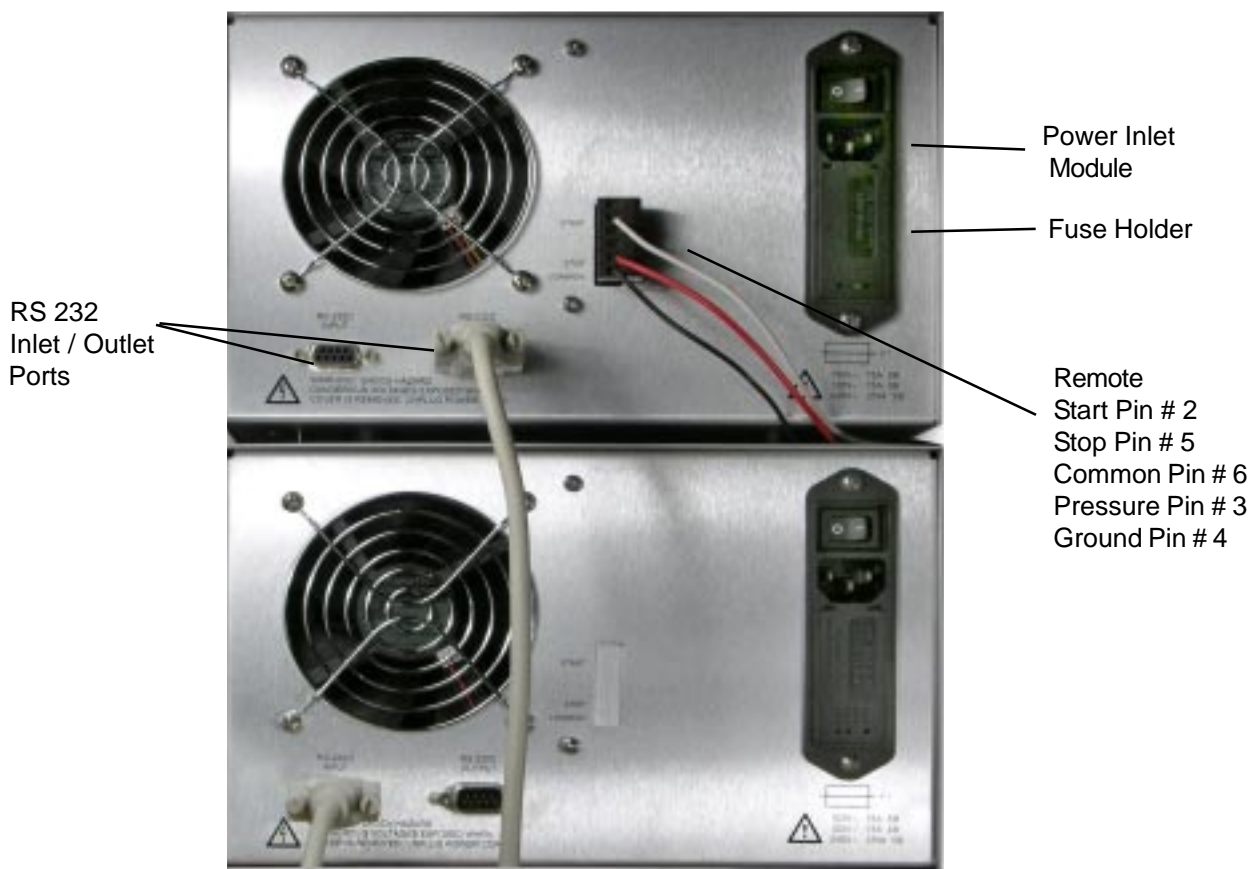

Figure 2. Back View Model 500G.
9. Connect Pump A to Pump B using the RS 232 cable provided in the accessory kit. The RS 232 cable connects to the RS 232 output on Pump A and the RS 232 input on Pump B (**figure 2**).